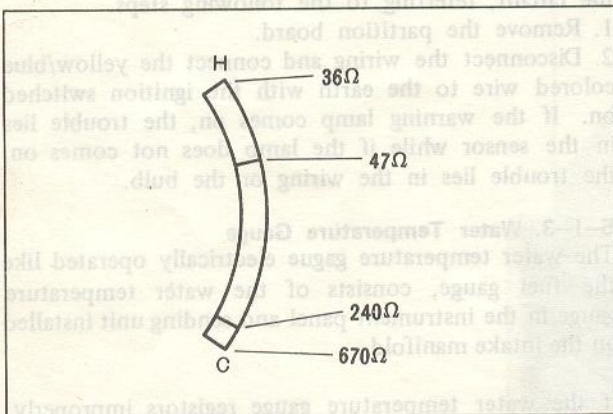

Fig. 5-70 Resistance of water temperature gauge
2. Set the checker button in the specifications as shown in Fig. 5-70.